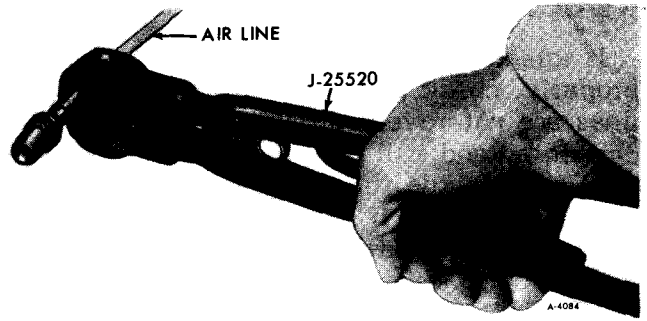

Figure 15—Special Tool J-25520 Crimping Air Line
3. Crimp fitting in place with Special Tool J-25520. This tool is designed so that crimp must be completed before tool will release (figure 15).